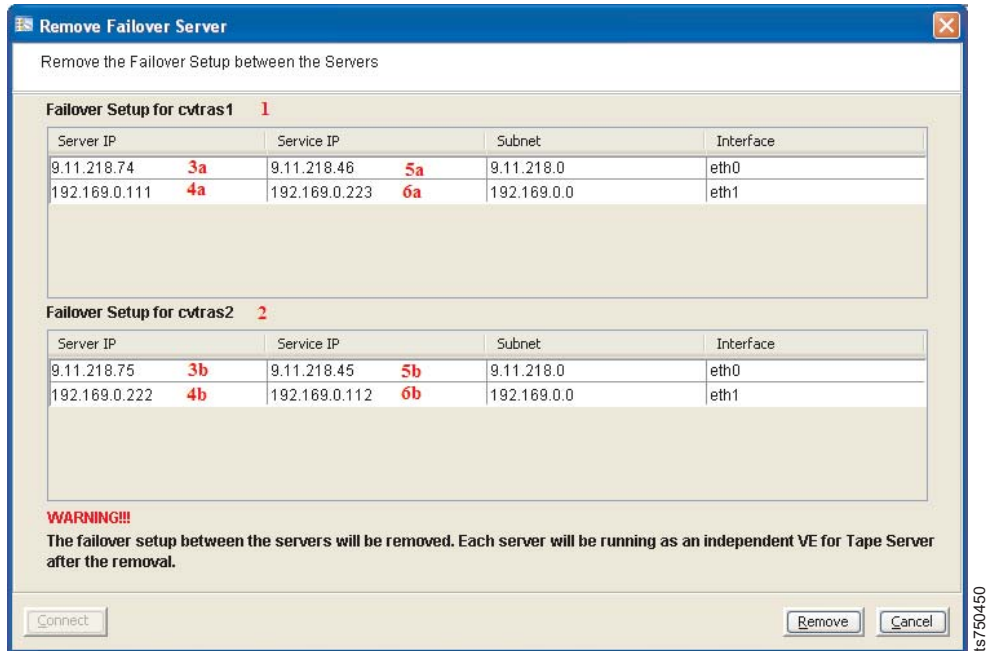

Figure 50. Removing Failover Server
2. At the Remove Failover Server screen, perform the following substeps (see Figure 50 on page 68):
- ___ a. Record the lower server hostname (1 in Figure 50 on page 68) in row 1 of Table 1 on page 68.
- ___ b. Record the upper server hostname (2 in Figure 50 on page 68) in row 1 of Table 1 on page 68.
- ___ c. Record the lower server Adapter 1 (eth0) network interface IP address (3a in Figure 50 on page 68) in row 2 of Table 1 on page 68.
- ___ d. Record the upper server Adapter 1 (eth0) network interface IP address (3b in Figure 50 on page 68) in row 2 of Table 1 on page 68.
- ___ e. Record the lower server Adapter 2 (eth1) network interface IP address (4a in Figure 50 on page 68) in row 3 of Table 1 on page 68.
- ___ f. Record the upper server Adapter 2 (eth1) network interface IP address (4b in Figure 50 on page 68) in row 3 of Table 1 on page 68.
- ___ g. Record the lower server Adapter 1 (eth0) service interface IP address (5a in Figure 50 on page 68) in row 4 of Table 1 on page 68.
- ___ h. Record the upper server Adapter 1 (eth0) service interface IP address (5b in Figure 50 on page 68) in row 4 of Table 1 on page 68.
- ___ i. Record the lower server Adapter 2 (eth1) service interface IP address (**6a** in Figure 50) in row 5 of Table 1.
- ___ j. Record the upper server Adapter 2 (eth1) service interface IP address (**6b** in Figure 50) in row 5 of Table 1.
3. After Table 1 has been filled out, click **Remove**. Refer to Figure 50.